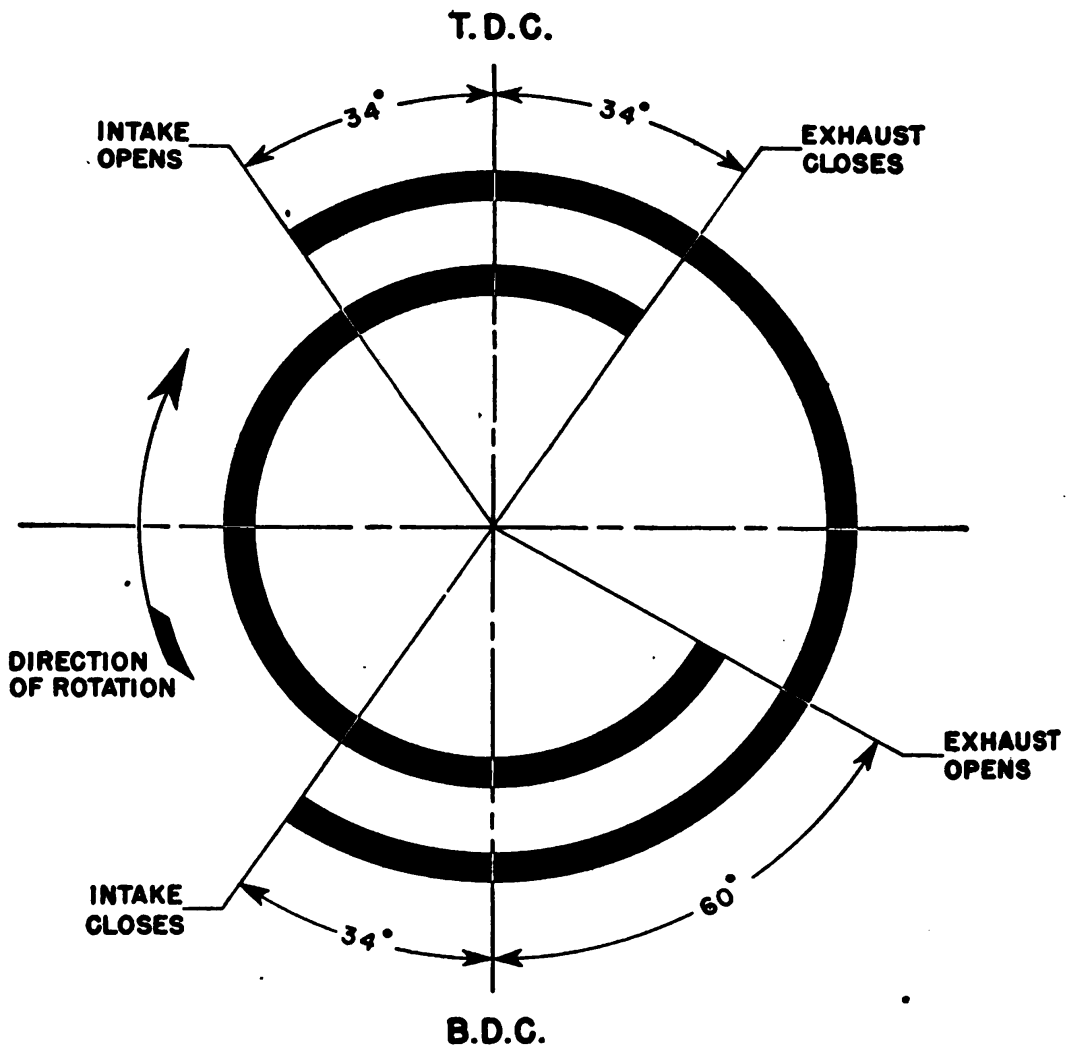

FIGURE 65.—Typical motorcycle valve timing diagram.
c. A typical two-cylinder, V-type motorcycle engine-timing diagram is given in figure 65. Note that both the inlet and exhaust valves are open at the same time for brief intervals. This is called overlap and varies with the design of the engine.